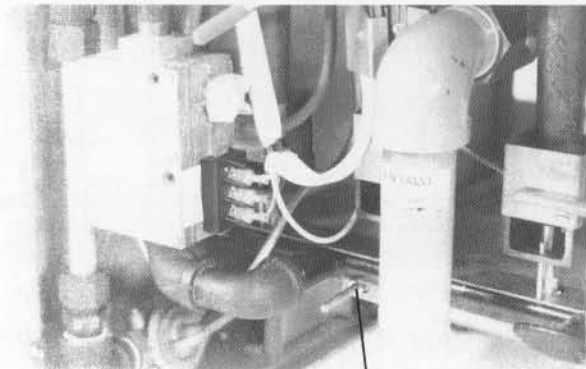

Figure 25
14. Remove mounting screw under gas manifold (Fig. 25).